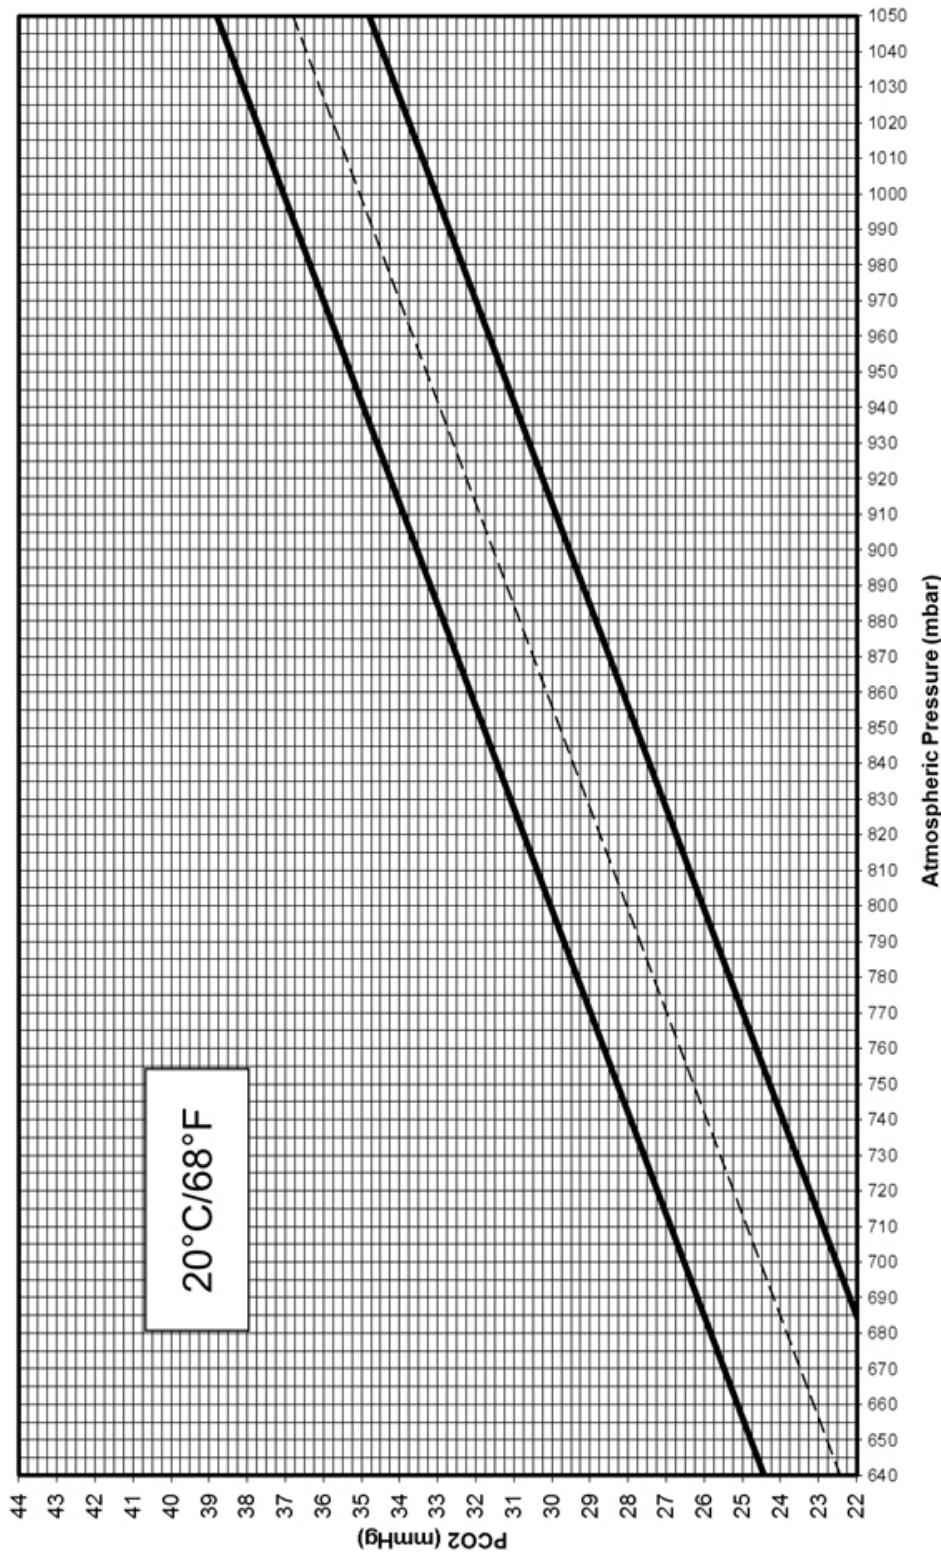

Fig. 190 Acceptable Range for PCO₂ at Atmospheric Pressure (17.5 to 22.5 °C)
- Ambient temperature 20 °C (17.5 to 22.5 °C): Fig 190